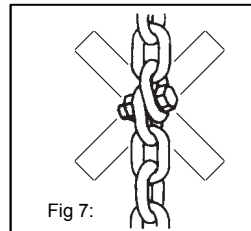

Fig 7:
- **Do not** knot or shorten the load chain by using bolts, screws, screw drivers or other devices (Fig. 7).